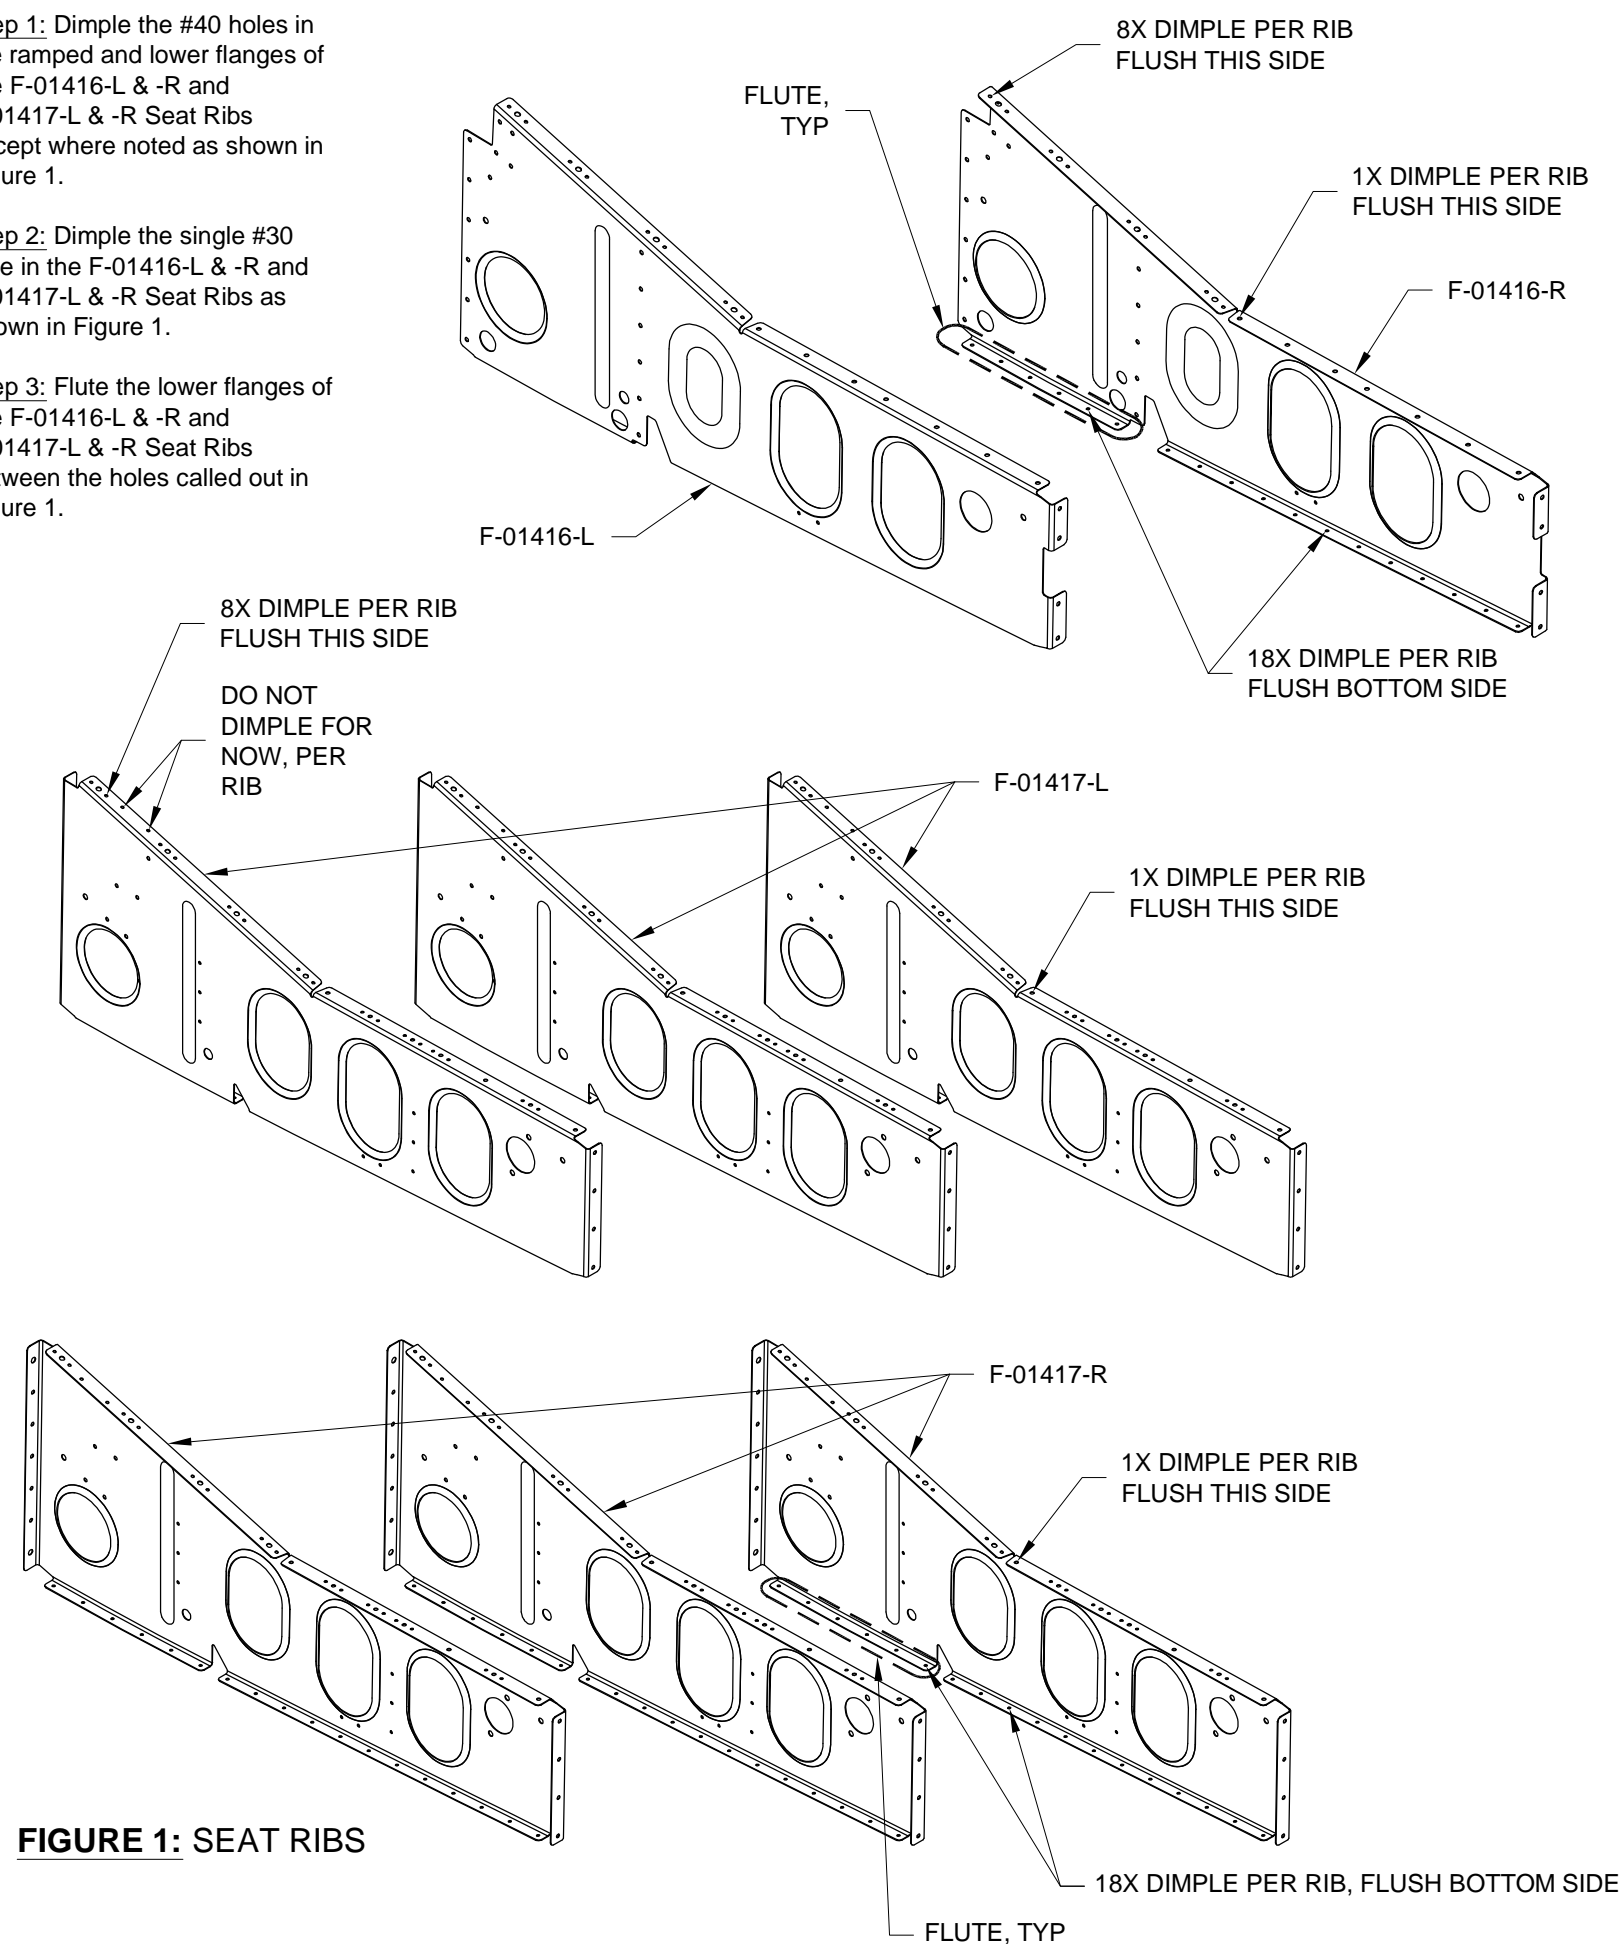

FIGURE 1: SEAT RIBS
Step 3: Flute the lower flanges of the F-01416-L & -R and F-01417-L & -R Seat Ribs between the holes called out in Figure 1.